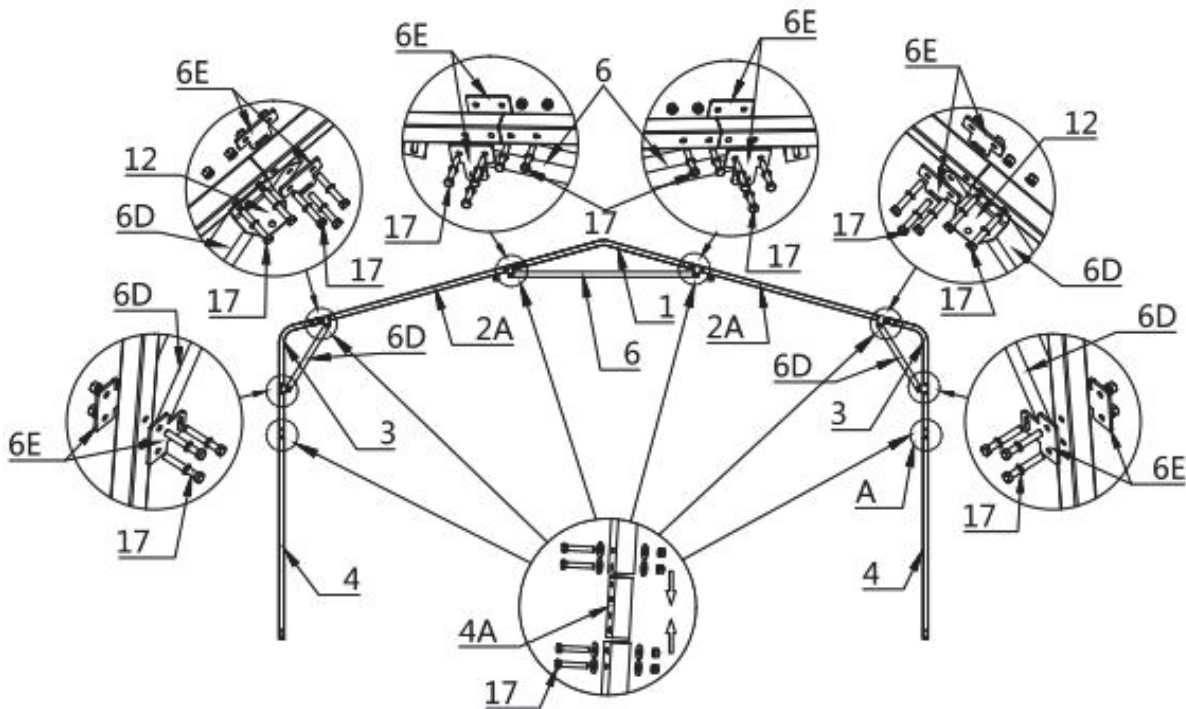

Figure 2
- Parts used to install the front and rear truss in this step (refer to Figure 2):